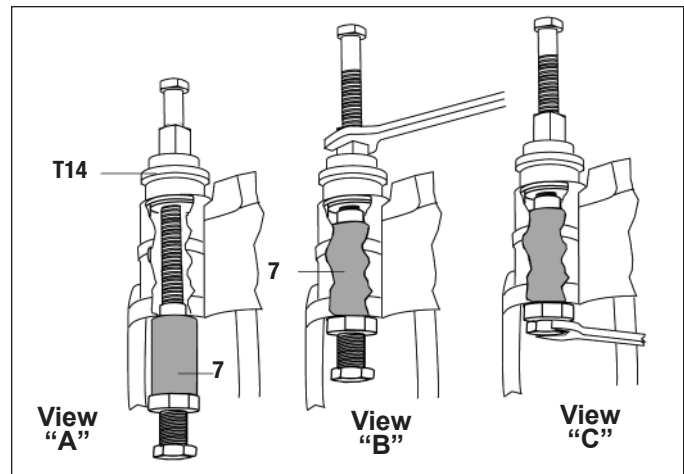

Figure 78 – View “A” and “B”: Draw the Brass Bushing into Position. View “C”: Lock the Bushing into Position
5.6.22 With the dimpling tool (T16) in position, tighten the screw in its base until it contacts the dimpling screw housing. The movement of this screw forces three points outwards, leaving indentations in the brass bushing. See Figure 78, view “C”.